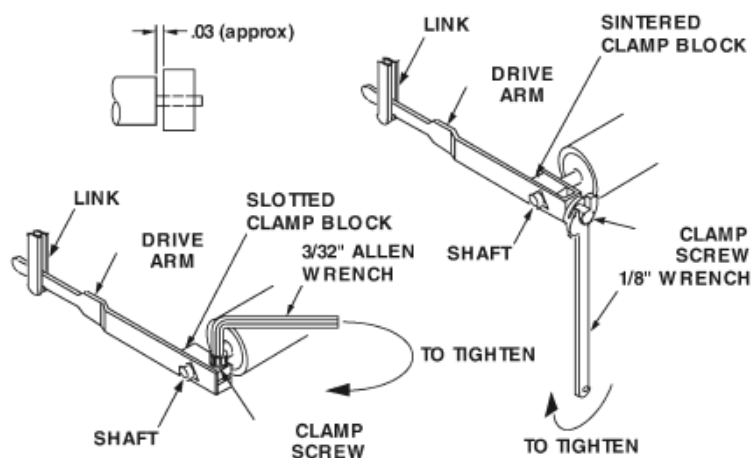

Figure 3-4. Locking Drive Arm to Torque Tube
- a. Loosen drive arm screw (Figure 3.4 Below) and move arm to shift pointer in direction of error a distance of about 10 times the linearity error.